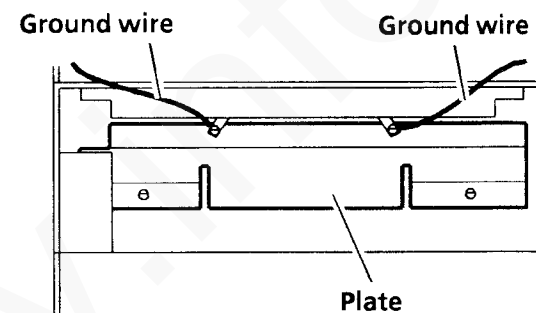

Figure 2. Plate removal
11. Remove four screws retaining the plate and grounding clips covering the ADF roller assembly (Figure 2).